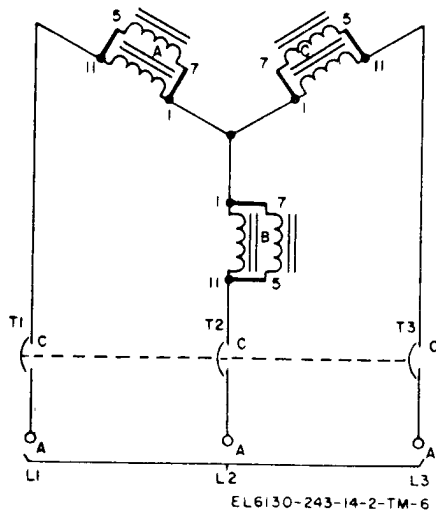

Figure 4-1. Connections to power transformer T1 primary windings for 220-volt input, simplified schematic diagram.
a. The power supply is designed to operate from either 220- or 440-volt, 60-Hz, 3-phase power mains. Jumpers are used to provide for correct connection of the power mains to the primary windings of input power transformer T1. Figures 4-1 and 4-2 are simplified schematic diagrams that show how the primary windings are wye-connected to the power mains. Refer to the complete schematic diagram (fig. FO-2) while studying the two simplified schematic diagrams.
b. When the power supply is arranged to operate with 220-volt input power, jumpers are connected between specific terminals as shown by the short heavy lines in figure 4-1. The primary windings of transformer T1 are thus parallel-connected into a wye configuration. When the INPUT POWER circuit breaker switch (CB1) is at ON, input power is routed from the C terminals of the circuit breakers